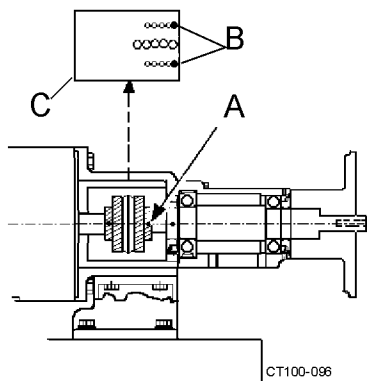

Figure 47 - Removing Coupling Covers
7. Remove the coupling cover cap screws (Figure 47, item B).
8. Loosen the set screws on the pump coupling (Figure 47, item A).